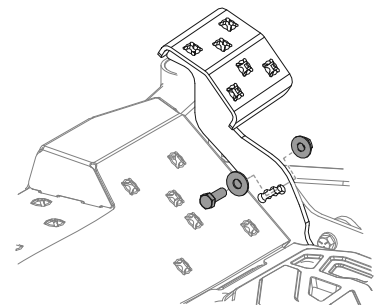

Figure 40
2. Remove the hex bolt, washer and hex nut near the center of the pedal assembly. See Figure 40.
4. Reinstall the hardware previously removed and torque the nut to 28-35 ft-lbs (38-47 N-m). See Figure 40.